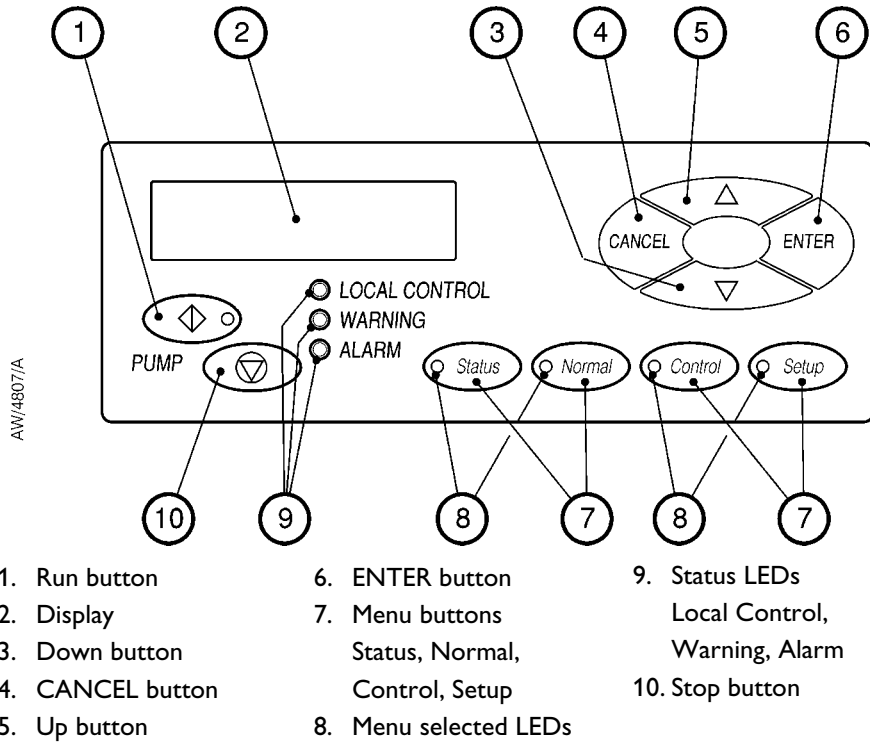

Figure 6 - End User Controller (EUC) Display
The End User Controller (EUC) allows manual control of the EPX pump and also displays the pump status. Refer to Figure 6 which shows the front panel of the EUC display.
Use the run button (Figure 6, item 1) to start the EPX pump. The run button has an LED which is on when the EPX pump is running. Use the stop button (Figure 6, item 10) to stop the pump.
The display (Figure 6, item 2) shows two lines of text; each line is 16 characters long. In normal operation, the Normal display is shown; the Normal display has two pages, and each has two lines. Each page of the Normal display shows the status of one or more EPX EUC sensors or internal clocks and counters. As supplied, the first page of Normal display shows the pump serial number and pump current. It is possible to change the information shown on the Normal display.
At any time, press one of the four menu buttons (Figure 6, item 7) to select a new menu. Then use the up (Figure 6, item 5), down (Figure 6, item 3), ENTER (Figure 6, item 6) and CANCEL (Figure 6, item 4) buttons to move through the menu. The appropriate menu selected LED (Figure 6, item 8) is on when the corresponding menu is in use.
Use the menu (Figure 6, item 7), up (Figure 6, item 5), down (Figure 6, item 3), CANCEL (Figure 6, item 4) and ENTER (Figure 6, item 6) buttons as described below. Refer to Section 4 for a full definition of the menu structures and the display formats.
The status LEDs (Figure 6, item 9) show the current status of the EPX system.